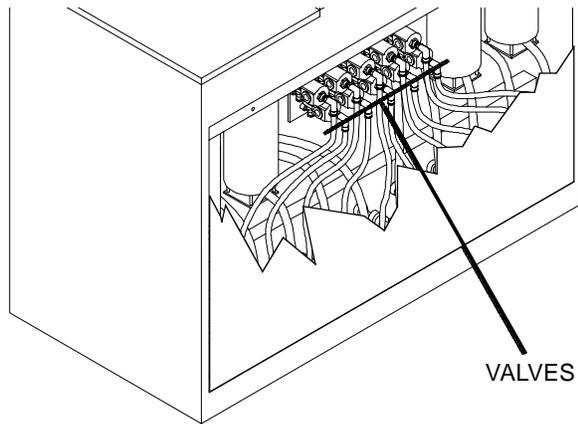

Figure 11. Location of Valves
3. Open the lower rear cover exposing the valves. Figure 11 on page 22 shows the location of the valves.